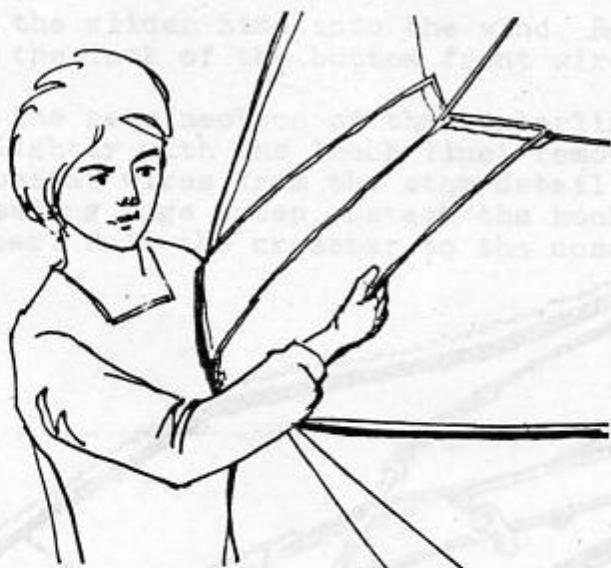

Fig. 5.1.1.
1. Place the glider nose into the wind. Dismount the nose cone (Fig. 5.1.1).